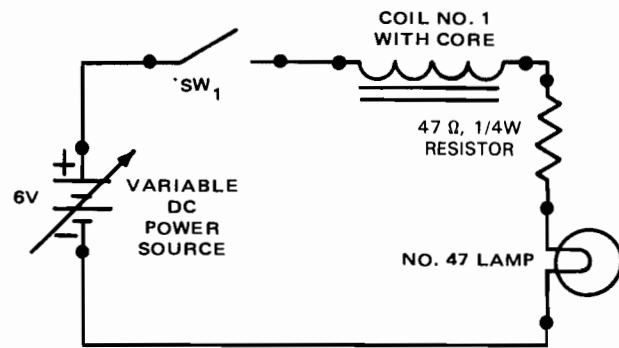

Fig. 9-1-3
- Turn off circuit switch and add a 47 or 50 ohm resistor in series with coil and lamp, as shown in Fig. 9-1-3.
- What causes the delay of brightness in the circuit in Fig. 9-1-3? _____